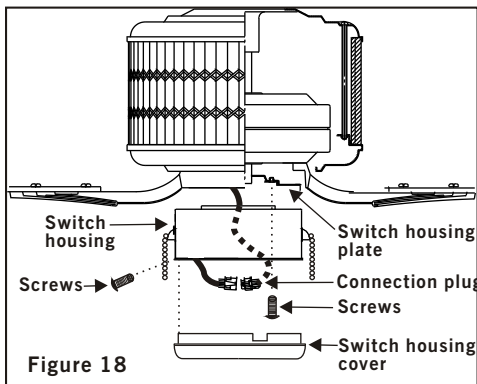

Figure 18
1. Remove the 1 of 3 screws from the switch housing plate and keep it for future use. Loos the other 2 screws (Do not remove).(Figure 18)
2. Install the switch housing to the switch housing plate by feeding the wires from fan through the hole of switch housing, then place the switch housing key holes over the 2 screws previously loosened from the switch housing plate, turn switch housing until it locks in place at the narrow section of the key holes. Secure by tightening the 2 screws previously loosened and the one previously removed. (Fig. 18)